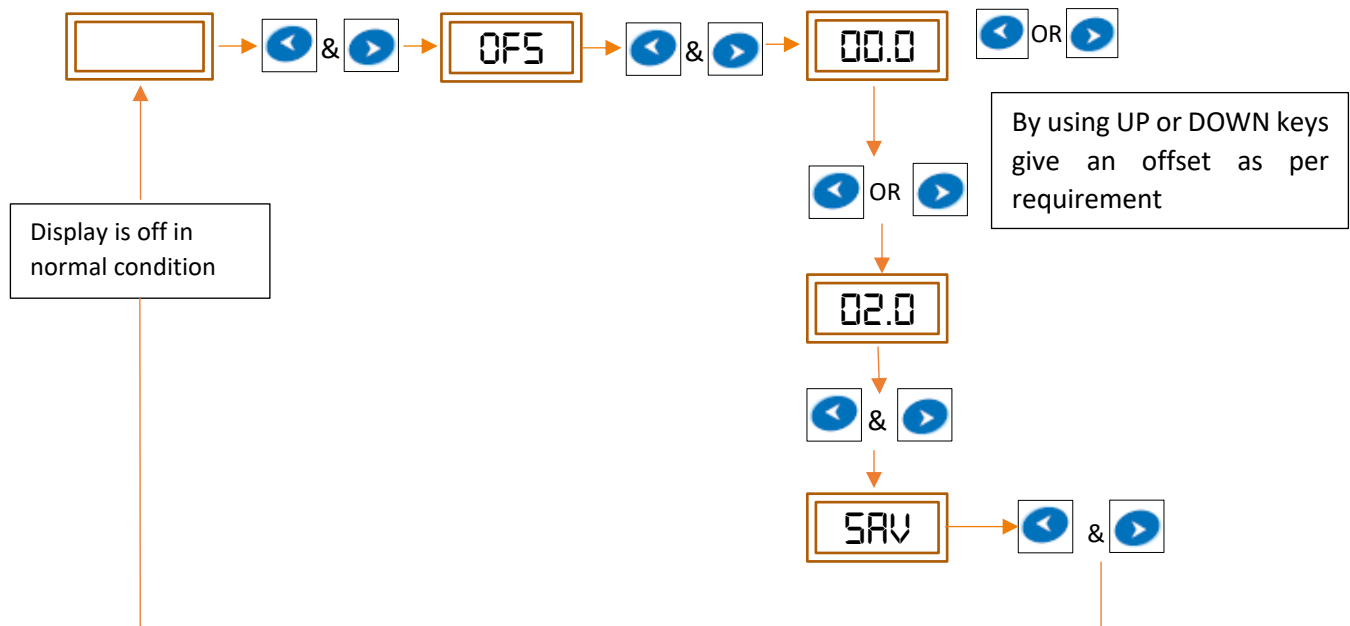

Figure 12 Offset Menu Operation
- This menu involves application of an offset in current reading, through the front panel keyboard. User can give an offset in current reading by the sequence shown in figure 12.